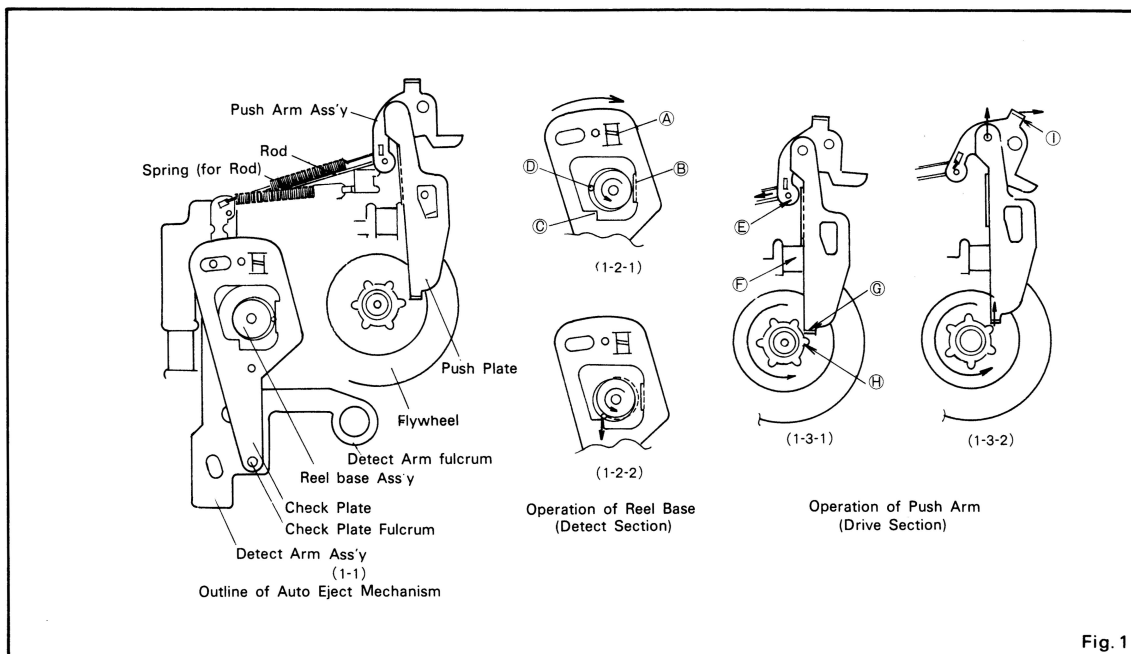

Fig. 1
■Brief description of the operation of auto eject mechanism (See Fig. 1)